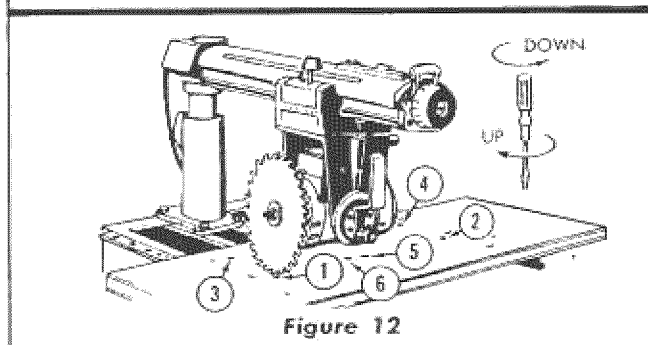
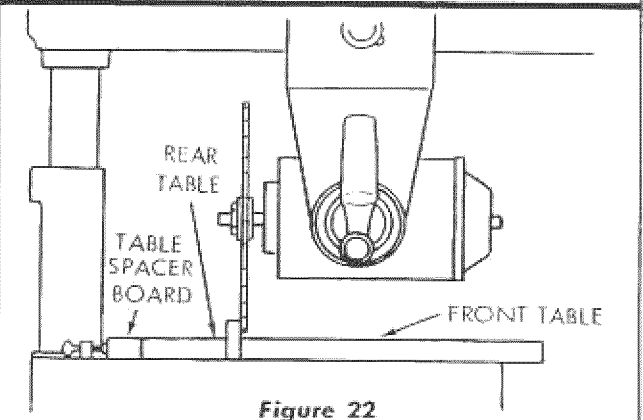
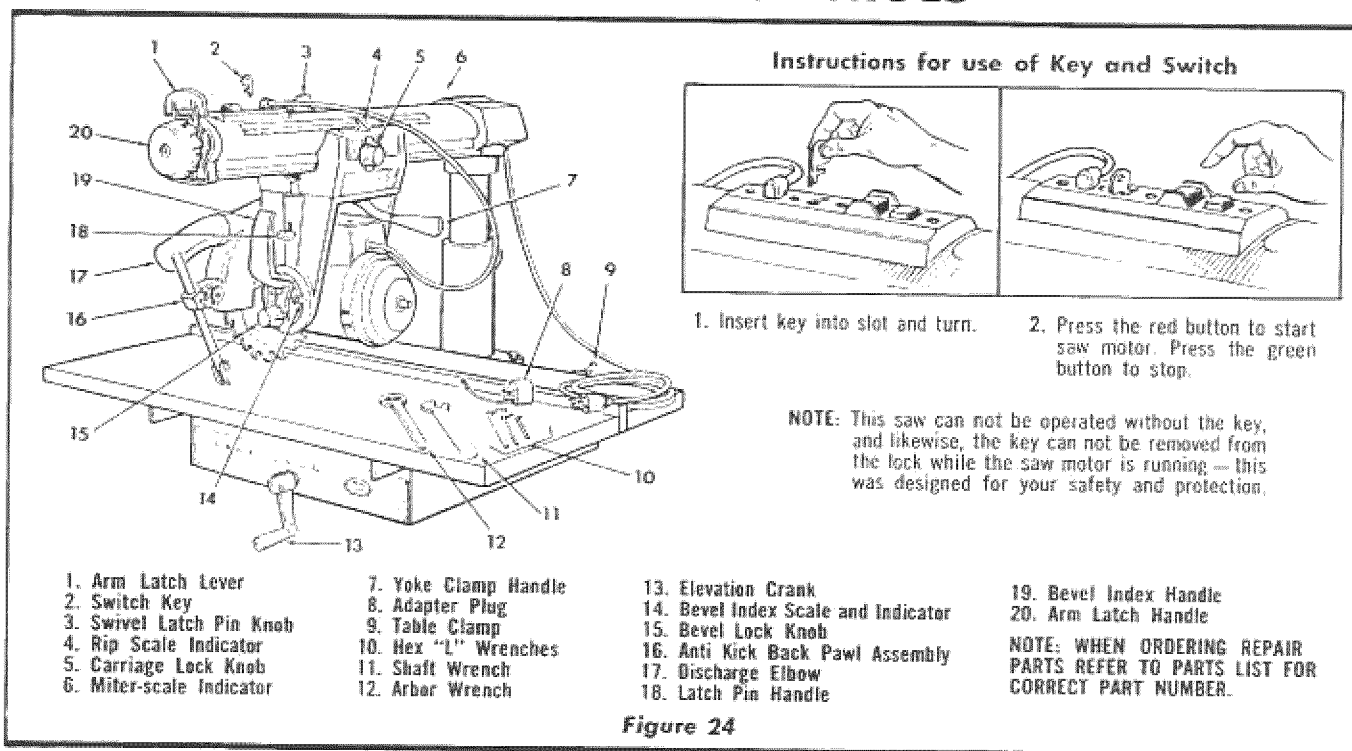

Figure 12
Figure 22
Figure 24
4. Loosen arm latch handle (20, figure 24) enough to obtain free movement of radial arm, release arm latch lever (1, figure 24) and loosen carriage lock knob and move it to points (1, 2, 3 and 4, figure 12) to find at which of these points the blade first touches the top of the table.
5. The high point must be at one of the front screw holes before continuing the paralleling procedure. If high point is not at the front, adjust the screw at point (1, figure 12) so the high point is created at the front near point 1. Raise the blade slightly to pick-up a "pinging" sound at this new high point.
11. Move the saw blade to all four screw positions to recheck for proper paralleling of table. (Points 1 through 4, figure 12.)
1. Locate the motor carriage assembly midway on radial arm and tighten carriage lock knob (5, figure 24).
Move the motor along the radial arm until the blade, when spun by hand, just touches the front face of the fence (see figure 22). The rip-scale indicator (4, figure 24) on the right-hand side of radial arm should now read 0-inches. If not, shift the position of the indicator to read 0-inches.
**NOTE:** With the saw blade and fence in the position shown in figure 22, the upper portion of the "In-Rip" scale is used. If the fence is moved to the extreme rear position, the lower portion of the "In-Rip" scale is used.
1. **RED** — Radial arm indexing and locking — colors located on arm latch handle (20, figure 24) and miter scale indicator (6).
2. **YELLOW** — Bevel indexing and locking — colors located on bevel lock knob (15, figure 24), latch pin handle (18) and bevel index indicator (pointer) (14).
3. **ORANGE** — Swivel indexing and locking — colors located on swivel latch pin knob (3, figure 24), yoke clamp handle (7) and yoke.
**RAISING AND LOWERING THE RADIAL ARM** is accomplished by the elevation crank (13, figure 24). One complete turn of this handle will raise or lower the radial arm 1/8".
**LOCKING THE CARRIAGE TO THE RADIAL ARM** is accomplished by the carriage lock knob (5, figure 24). Turn the knob clockwise to lock; counterclockwise to unlock.
**ANGULAR MOVEMENT AND LOCKING OF THE RADIAL ARM** are controlled by the arm latch lever (1, figure 24), and the arm latch handle (20). The radial arm can be rotated 360° and locked in any position. The arm is unlocked from any position by a slight counterclockwise rotation of the arm latch handle and is locked in any position by rotating the arm latch handle clockwise until tight. The radial arm has positive stops at 0° and 45° left and right, and is released from these index positions by unlocking the arm latch handle and pulling out the arm latch lever (1).
handle (20, figure 24) just 1/4 turn counterclockwise from the locked position, pull out the arm latch lever and move radial arm off the index position. Release the arm latch lever.
**MOVEMENT AND POSITION OF THE MOTOR IN THE YOKE** are controlled by the latch pin handle (18, figure 24) and bevel lock knob (15). The bevel scale indicates the angular position of the motor with respect to the horizontal from 0° to 90° in either vertical position. The latch pin handle automatically indexes the motor at 0°, 45°, and 90° up and down. Lift to release. At any other position, the latch pin handle is not engaged. The bevel lock knob locks the motor to the yoke when the motor is in any position. Locking is clockwise; unlocking is counterclockwise.
**MOVEMENT AND POSITION OF THE YOKE** are controlled by the swivel latch pin knob (3, figure 24) and the yoke clamp handle (7). The swivel latch pin automatically indexes the yoke at each 90° position and two 45° positions. Lift to release. The yoke clamp